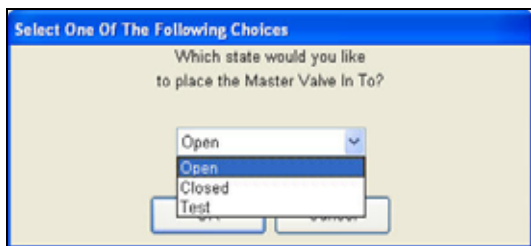

Figure 7.1.1
- Click the **DOWN** arrow to select what state you would like to place the master valve into (Figure 7.1.1).